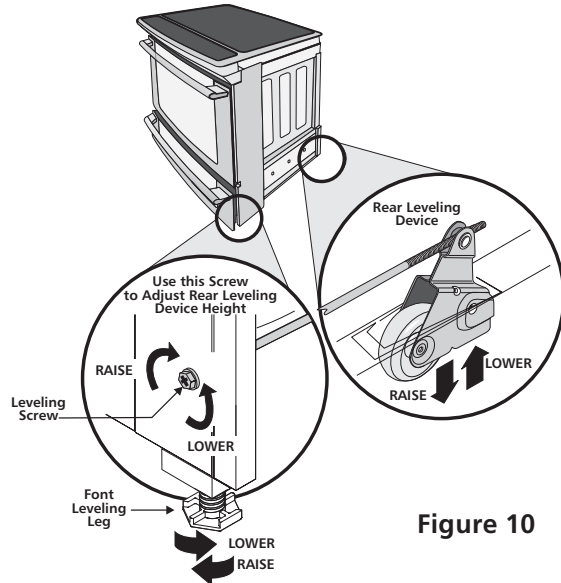

Figure 10
2. Adjust the appliance legs as follows until the underside of the cooktop surface is sitting level on the countertop (Figure 10).